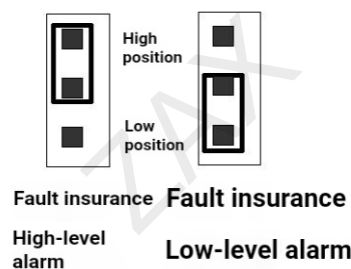

Figure 5.1 HLFS/LLFS
The High Level Fail Safe (HLFS) / Low Level Fail Safe (LLFS) jumper determines whether the relay will de-energize when material is higher or lower than the set point. HLFS means the relay will de-energize (alarm) when sensed capacitance (level) is higher than the set point. LLFS means relay will de-energize (alarm) when sensed capacitance (level) lower than the set point. The instrument is supplied in the failsafe mode requested when the order is placed (HLFS, if not specified.) The HLFS/LLFS jumper is located on the side of the unit. See figure 5.1 Electronic Unit Sketch.
- D. The difficulty of calibration mostly comes from the wrong wiring between the relays and the alert or other equipment of the cabinet. Please check the wiring according to Section 4.7 Relay wiring, make sure that the instrument is in the proper HLFS/LLFS position as figure 5.1.